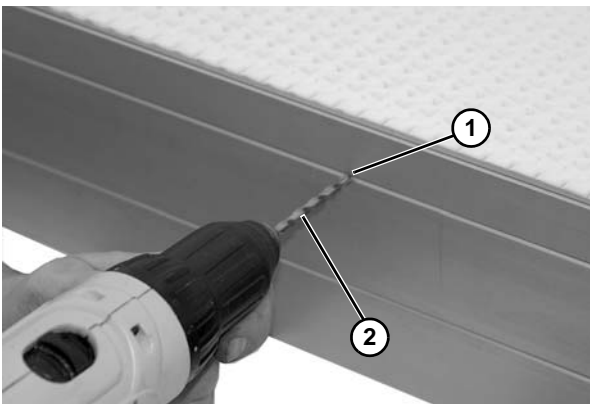

Figure 28
2. Drill the hole locations (**Figure 28, item 1**) with a 3/16" drill bit (**Figure 28, item 2**).